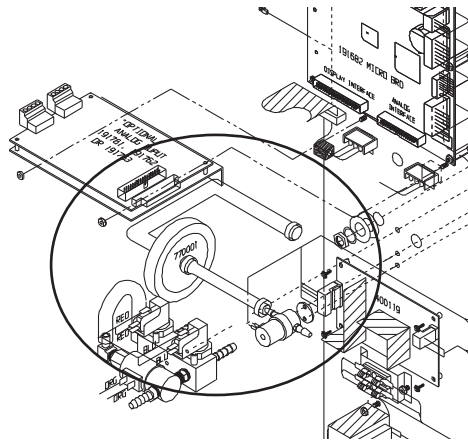

Figure 11-1. CO₂ Air Filter
3. On the left side of the opening is the electronics area. Locate the CO₂ air filter (Figure 11-1). Disconnect carefully from the tubing and replace.